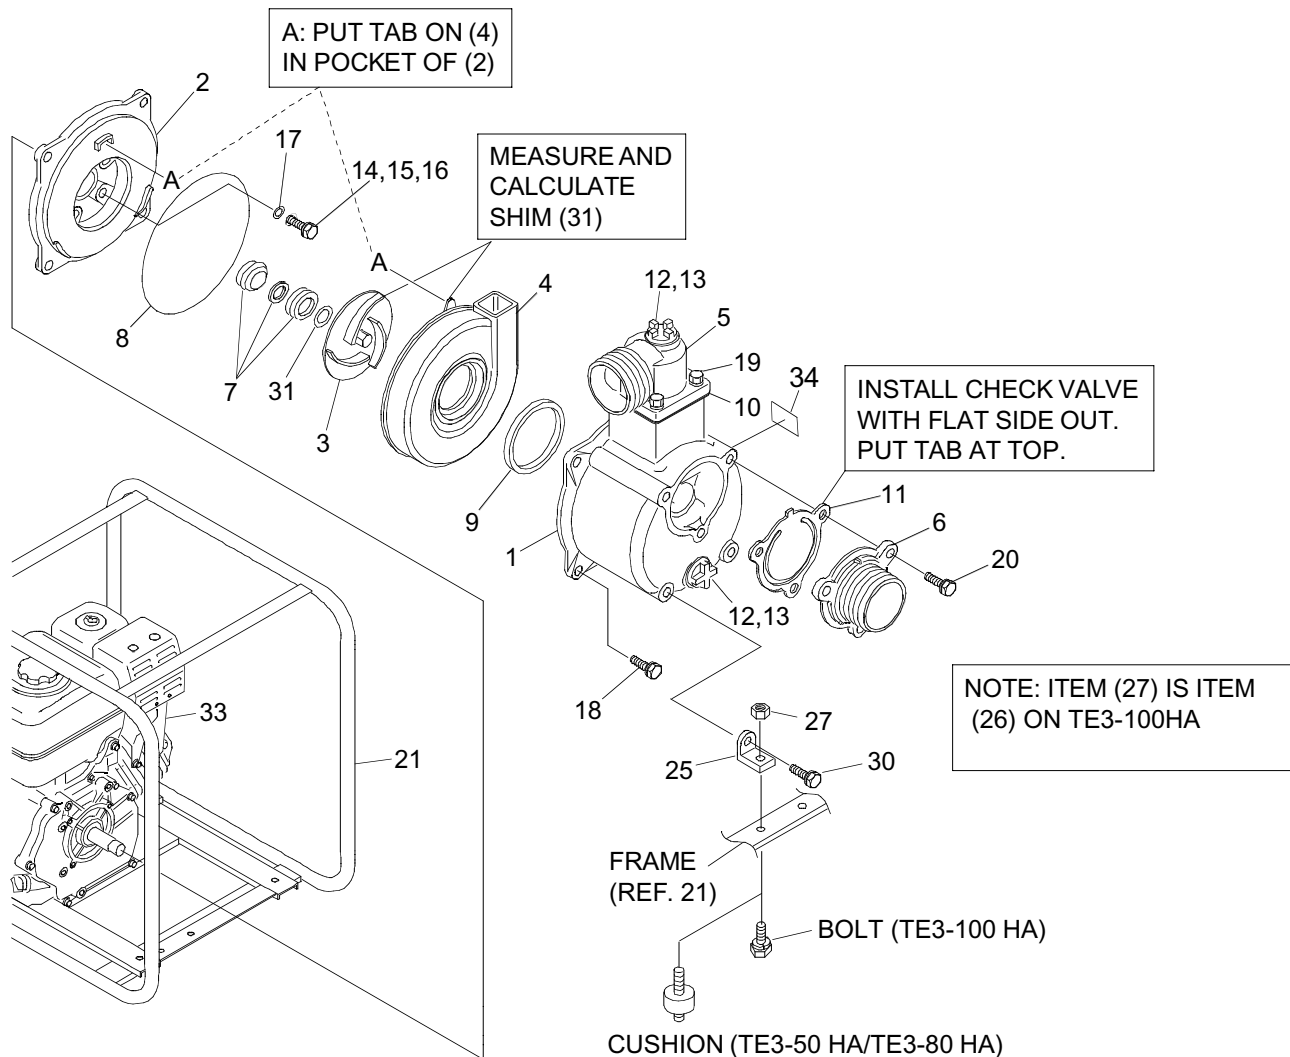

Figure 4-4: Removal of Internal Components
- The item numbers in procedures correspond with the item numbers used in the **REPLACEMENT PARTS** section of the manual. Refer to exploded view in Figure 4-4 for parts location.
- Use wooden blocks to steady and support frame (21) and engine (33) during disassembly and assembly.
- (1) Remove two screws (30) from bracket (25) and pump casing (1). Remove two spring nuts (27) and two brackets (25).
- (2) Position the frame (21) so the pump is facing up (with the engine shroud down).
- (3) Remove four bolts (18) and lift casing (1) from casing cover (2).
- (4) Remove volute casing (4), packing (9), and O-ring (8). Check packing (9) and O-ring (8) for damage and replace if damaged.
- Refer to Figure 4-4 for location of parts used on Models TE3-50HA and TE3-80A.
A. Replacement of Pump Cushions (24) on Models TE3-50HA and TE3-80A.
- (1) Remove screws (30) from casing (2) and brackets (25).
- (2) Remove nuts (27) and brackets (25) from threaded end of cushions (24).
- (3) Remove nuts (26) from threaded end of cushion (24) (on the underside of frame crossover support). Remove cushions and check for damage; replace damaged cushions.
- (4) Install threaded end of new cushions (24) through holes at pump end of frame. Secure with nuts.
- (5) Install short end of new cushions (23) through holes at engine end of frame. Secure with nuts (26).